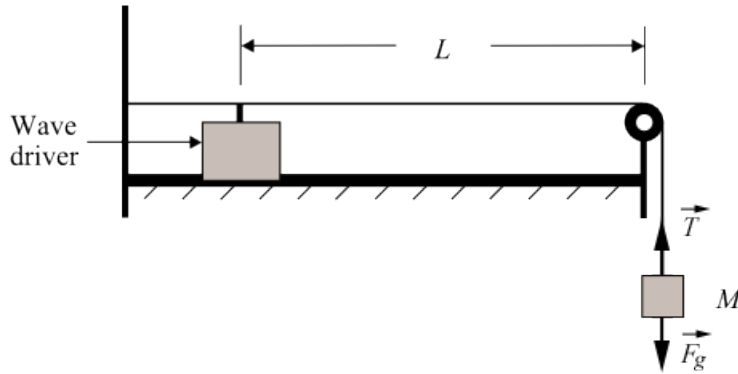

Figure 3: the waves on a string setup
The lab apparatus consists of a string, which is fixed on one end and attached to a weight hanger over a pulley on the other end as shown in fig. 3.
In fig. 3, L is the distance between the top of the pulley and the wave driver. Both of these points will be **nodes**.
- 3 Calculate the tension in the string. The mass of the weight holder is 50 g. (Hint: refer to the force diagram in figure 3.) Remember to include the mass of the weight holder.